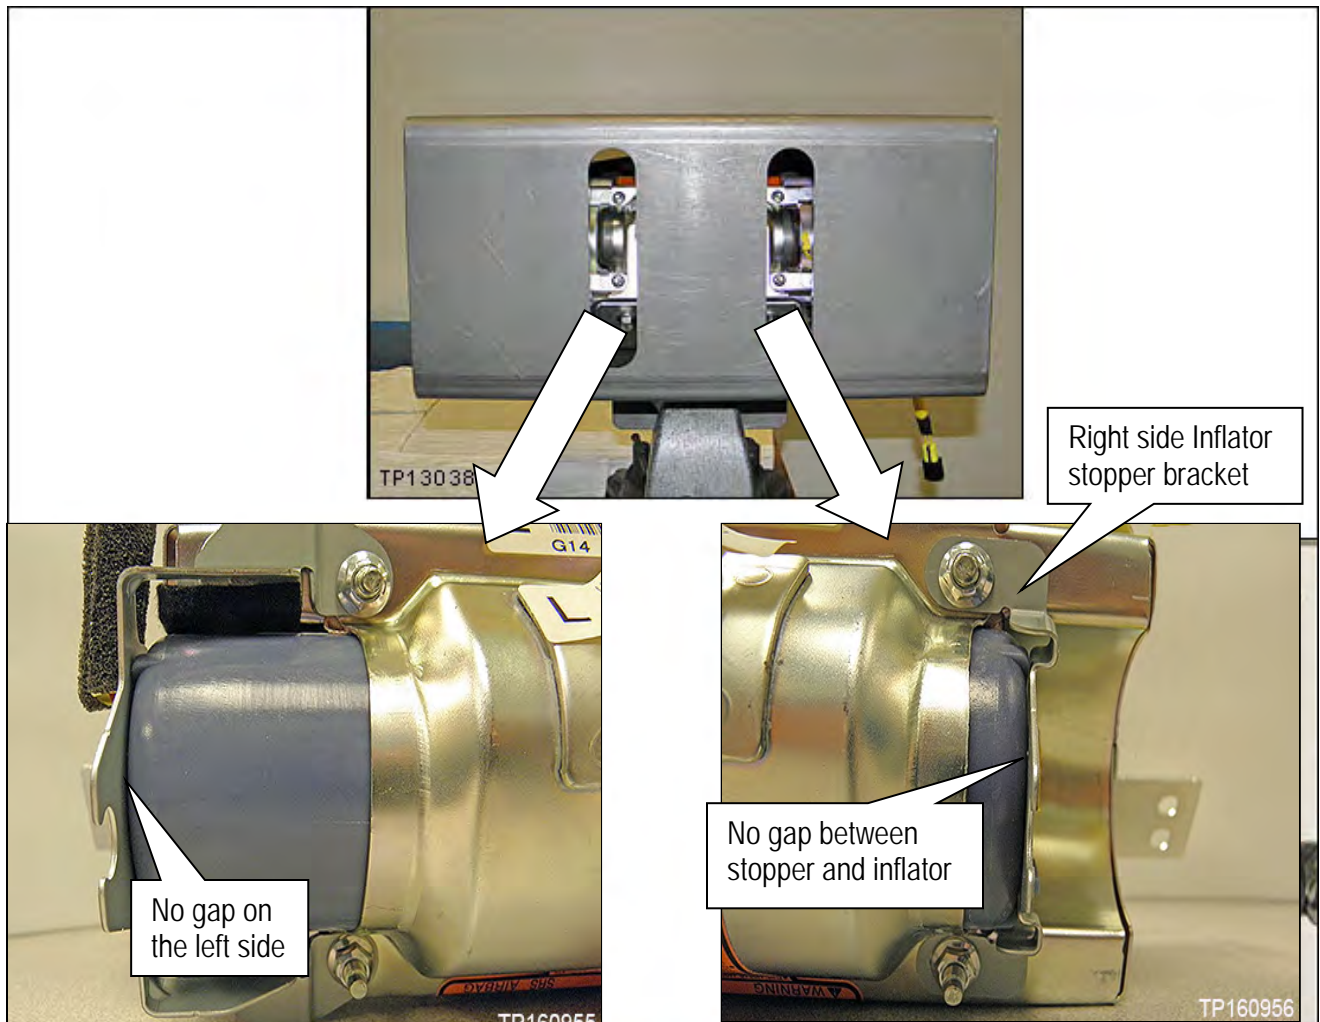

Figure 51
- Make sure the inflator is pushed all the way into its housing – no gap on the left side (see Figure 51).
- Make sure there is no gap between the inflator stopper bracket and the inflator on the right side (see Figure 51).